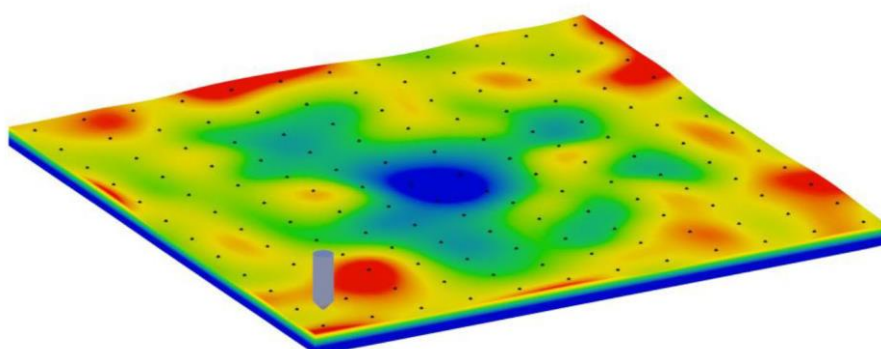

Fig. 55 The map of the heatbed curvature resulting from autocalibration
**Autocalibration** of the heatbed is the automatic measurement of the heatbed surface in 100 points with the use of a pressure sensor built into the printing module. Based on this measurement, the virtual map of the heatbed curvature is created, which is the basis for the autocalibration and autocompensation. The map is saved in the printer's memory and is modified only after performance of a next complete working scan (fig. 55).